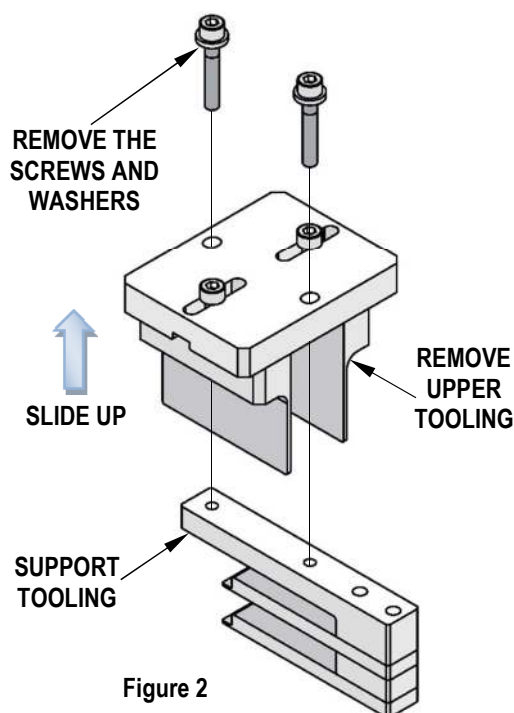

Figure 2
1. Disassemble the (2) halves by unscrewing the screws on the top of the upper tooling. See Figure 2.